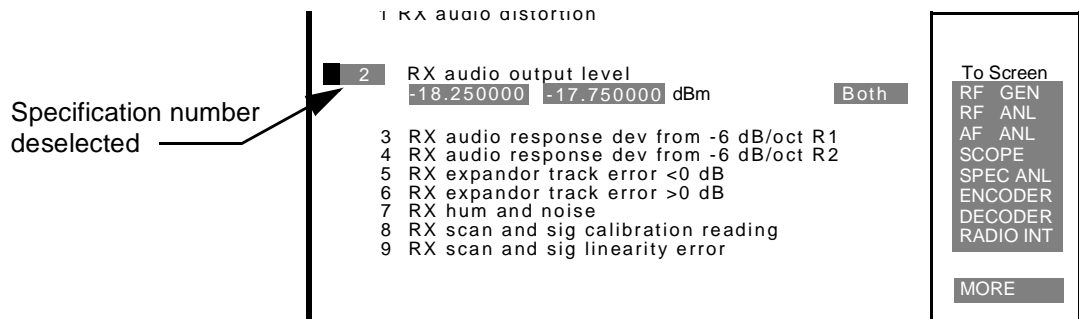

Figure 20
- Rotate the CURSOR CONTROL knob to move the cursor to specification number 2 and select it. The **Spec#** field is deselected (see figure 20).